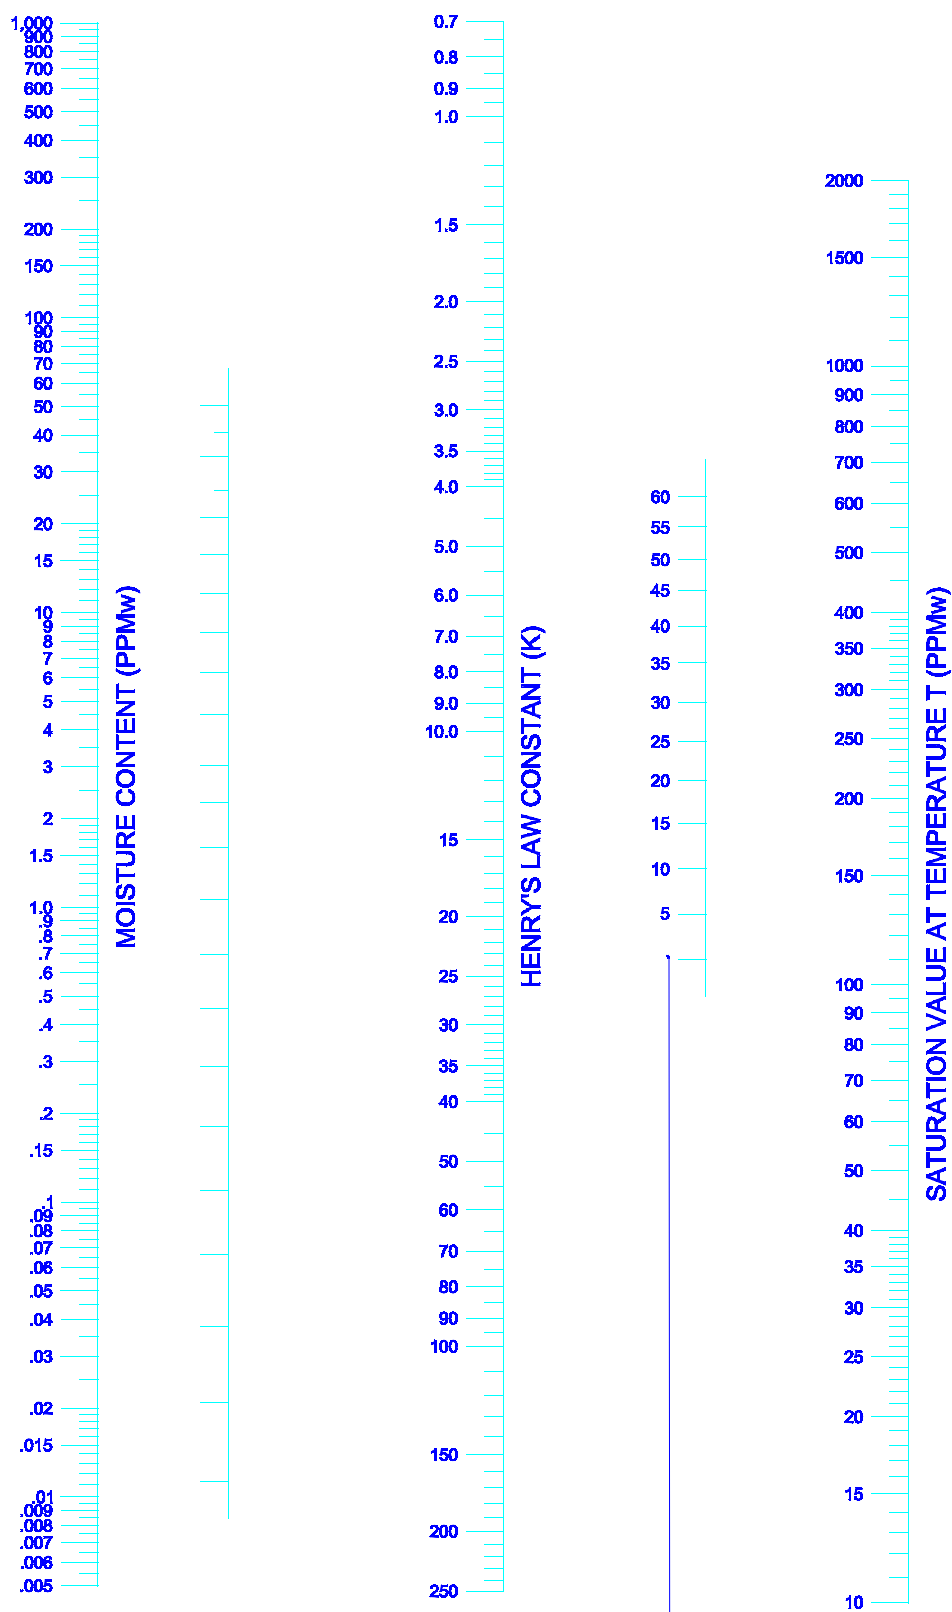

Figure A-2: Moisture Content Nomograph for Liquids
The nomograph for liquids in Figure A-2 on page A-32 can be used to determine the moisture content in an organic liquid, if the following values are known:
If the values of K and C_S are not known, the GE Panametrics hygrometer can be used to determine these values. In fact, only one of the values is required to determine PPM_W from the nomograph in Figure A-2 on page A-32. To perform such an analysis, proceed as follows:
As mentioned earlier, saturated straight-chain hydrocarbons represent a special case, where the Henry's Law constant does not vary appreciably with temperature. In such cases, use the nomograph for liquids in Figure A-2 on page A-32 to complete the analysis.
- b. Using a straightedge on Figure A-2 on page A-32, connect the 870 PPM_W saturation concentration with the 30°C ambient temperature and read the Henry's Law Constant of **27.4** on the center scale.
- b. Using a straightedge on Figure A-2 on page A-32, connect the 480 PPM_W saturation concentration with the 50°C ambient temperature and read the Henry's Law Constant of **5.2** on the center scale.
- b. Using a straightedge on Figure A-2 on page A-32, connect the 101 PPM_W saturation concentration with the 20°C ambient temperature and read the Henry's Law Constant of **5.75** on the center scale.
- d. Using a straightedge on the nomograph in Figure A-2 on page A-32, connect the known 10 PPM_W moisture content with the measured dew point of -10°C, and read a K value of **5.1** on the center scale.